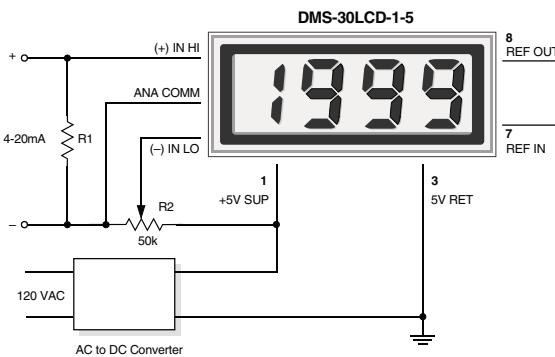

Figure 7. 4-to-20mA Current Loop Operation (5V-Powered Models)
**5. Process Control (4-to-20mA) Measurements:** In many common process-control applications, a 4-to-20mA current loop is used to transmit information. Because DMS-30LCD meters have such high input impedance, a simple shunt resistor across the meter's input can be used to convert the loop current to a voltage. See Figure 7. The value of the shunt resistor is a function of the scaling requirements of the particular application and can be calculated using the following equation:
To calibrate the circuit of Figure 7, perform the following: